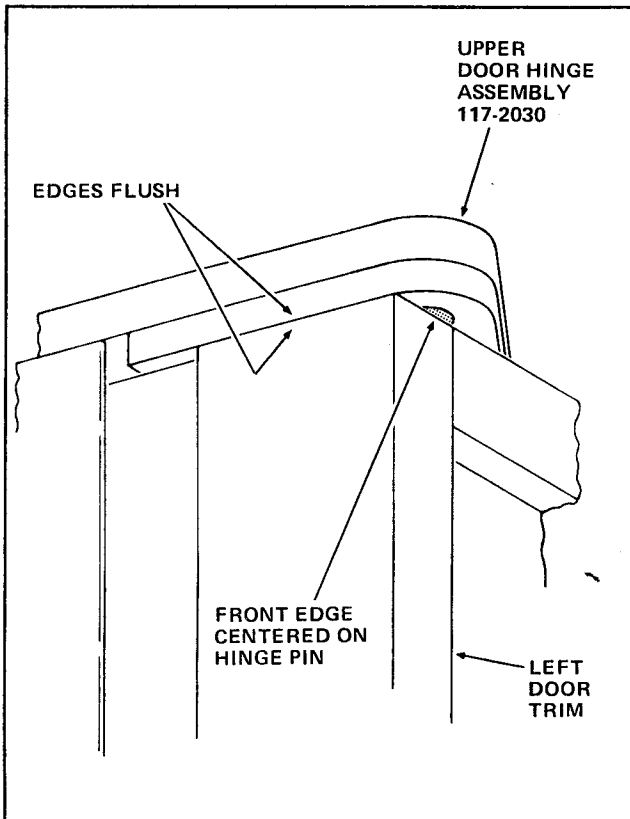

FIGURE 5
- a. The outside edge of the Left Door Trim is flush with the edge of the lower portion of the Hinge Assembly as shown in Figure 5.
b. The front edge of the Left Door Trim is aligned with an imaginary center line through the Hinge Pin. See Figure 5.